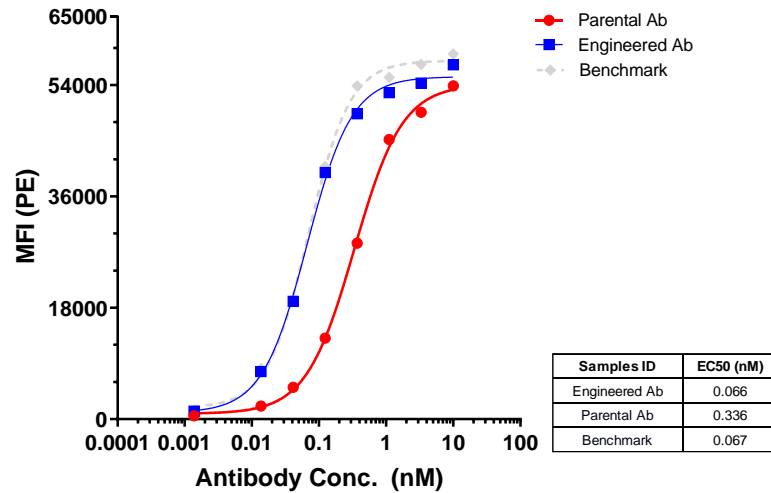
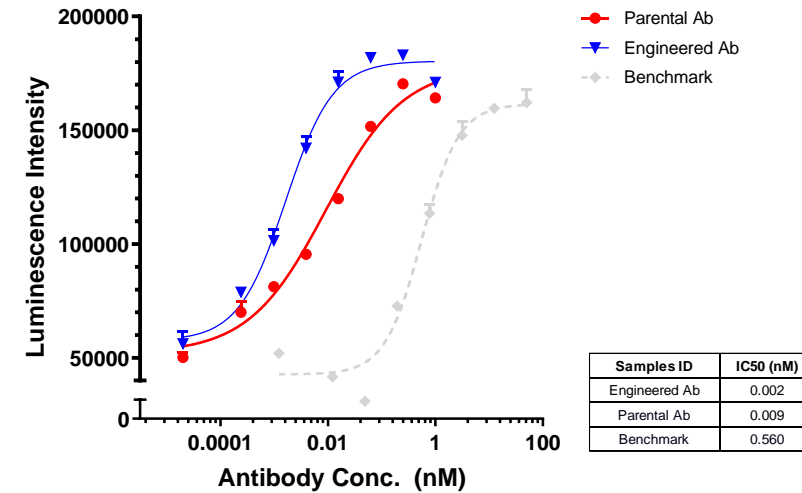

Fig. 1A Binding Affinity
Fig. 1B Functional Activity
- **Results:** As shown in Fig. 1A, the affinity of the pre-engineering antibody (Parental Ab) was increased by 5-fold after affinity maturation, which was comparable to that of Benchmark. As shown in Fig. 1B, the functional activity of the engineered preferred antibody (Engineered Ab) was increased by 280-fold compared with that of Benchmark. Both the affinity and functional activity were improved, so the engineering for affinity maturation was successful.